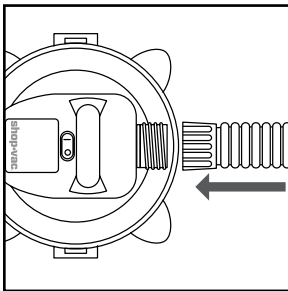

FIGURE 23
42. This vacuum can be used as a powerful blower. To use your unit as a blower, unscrew blower port cover located on the backside of the motor housing. The blower port cover is equipped with a retaining strap to prevent loss of the port cover while blower is in use. Clear hose of any obstructions before attaching to blower port. Insert hose end with locking-nut into blower port on rear of unit and tighten. Do not over-tighten. Caution should be used when using as a blower due to the powerful force of air when using certain attachments. **(FIGURE 23)**